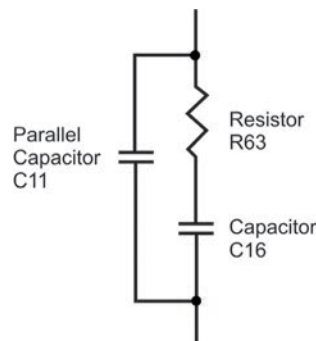

Figure 6.7 – Factory-installed Default RC Network
If your load inductance is between 200 microHenries and 1 milliHenry, and your load resistance is less than 5 ohms, then you can likely use the default compensation provided by the amplifier's factory-installed RC network (see **Figure 6.7**). This compensation network is enabled when the Compensation Network 1 DIP switch (SW#7) is set to the ON (UP) position